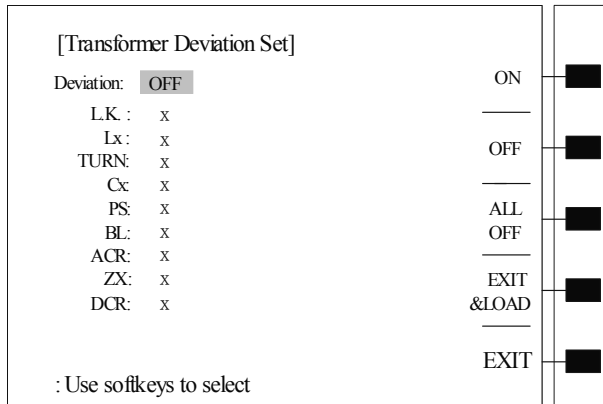

Figure3-2-5-2
- i. Press **[DEVIATION OFF]** soft-key to enter into **<Transformer Deviation set>** page layout in the Transformer scanning measuring display page layout showed as figure3-2-5-2: